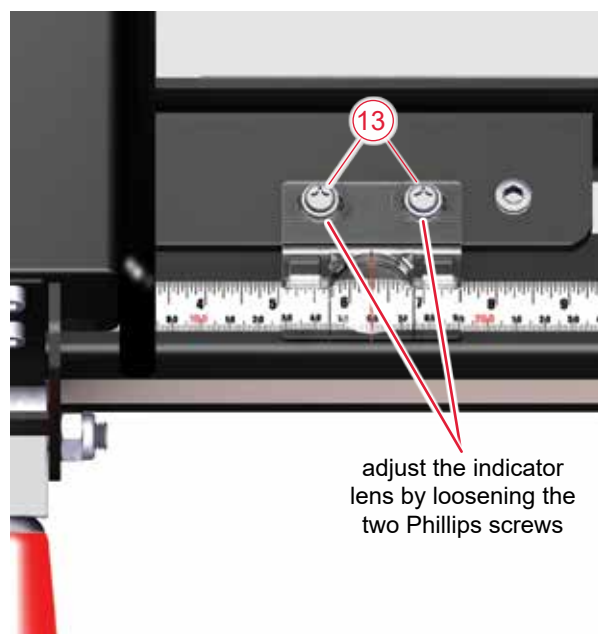

Fig. 31
If necessary, you can adjust the position of the indicator lenses on the front of the fence. To verify the position of each indicator lens, clamp the fence to the front tube and use a ruler to measure the distance from the blade to the fence plate and compare it to the measurement shown on the proper indicator lens. If adjustment is necessary, loosen the two M6 x 10 Phillips head screws (13) shown in Fig. 31 and slide the indicator lens to the right or left until the cursor is directly over the correct measurement. Tighten the screws to lock the position of the indicator lenses.